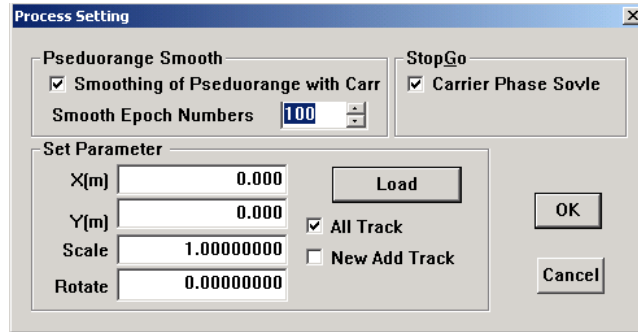

Fig 2-2 Differential Processing Setting
- b. Processing Setting: Set the relevant parameter for data processing. Click button **Solve settings**, a dialog box comes up as Fig 2-2.